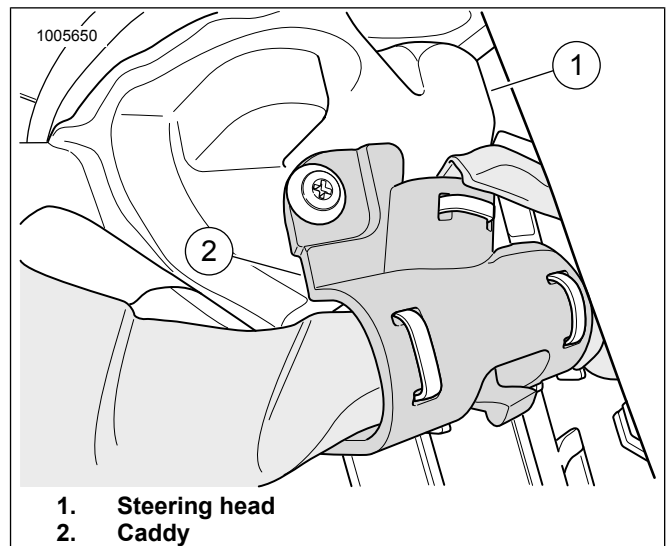

Figure 6. Steering Head With Caddy
9. Figure 6 Route end of 48-in. harness to steering head (1). Use caddy (2) to secure harness.